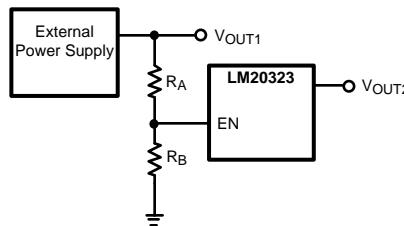

Figure 27. Sequencing LM20323 with Precision Enable
The precision enable (EN) and power good (PGOOD) pins of the LM20323 can be used to address many sequencing requirements. The turn-on of the LM20323 can be controlled with the precision enable pin by using two external resistors as shown in Figure 27 .